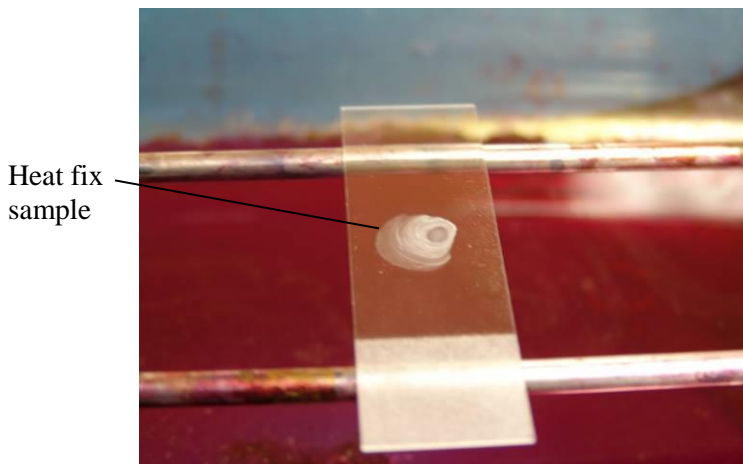

Figure 3: Heat fix sample
- 9.3. Figure 3: Heat fix sample